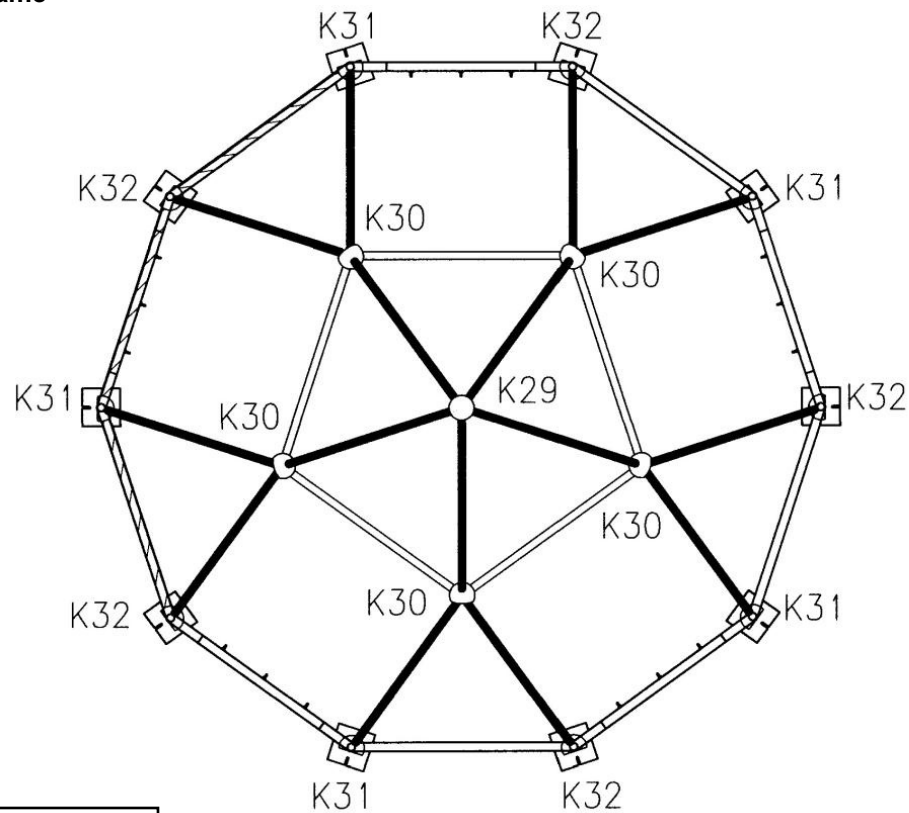
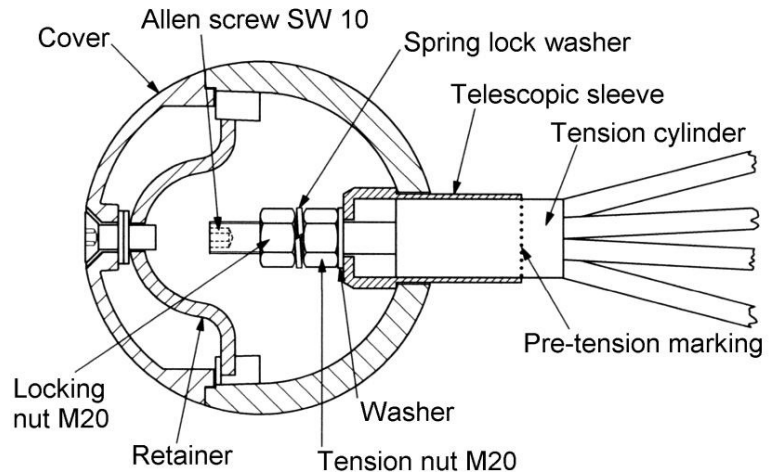
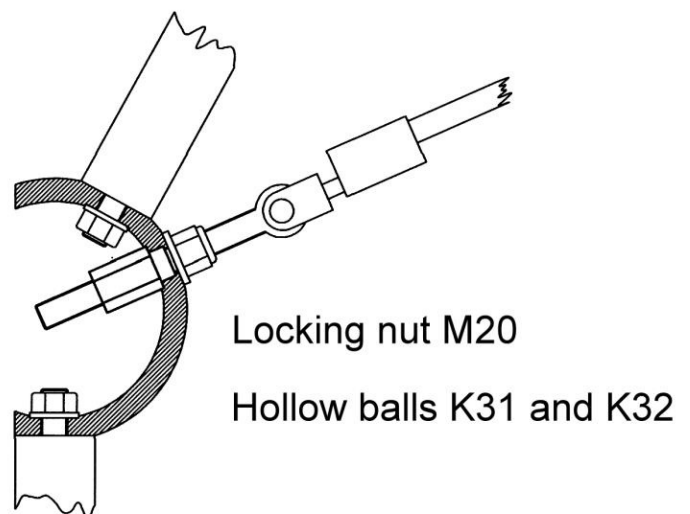

Figure 9
Figure 16
Figure 17
Two double ladders (2.5 m and 4 m long) are required for easy assembly. The structural arrangement of the lattice-work tubes and hollow balls can be seen in **Figures 9 and 10**. The identification number (**K29 to K32**) on the hollow ball must always point to the top of the equipment when being positioned.
Preassembly of the space net begins by screwing the tension systems into the hollow balls of **K30** (Figures 9, 10 and 16). In doing this, the tensioning cylinder is inserted into the telescopic sleeve with the M20 bolt and mounted from the inside with the tension nut M20 (Size 32) with approximately 5 turns of the thread. After this, the tension screws for hollow balls **K31** and **K32** (Figures 9 and 10) are made which also mount the tension rope via the fork screws (Figure 17).
Firstly the aligned connection on the hollow ball **K29** is to be solidly secured. Tensioning of the space net begins on the hollow balls of **K31** and **K32** which are screwed to the locking nut (Figure 17) using the special spanner supplied. After doing this tensioning is made on **K30** hollow balls up to the marking (Figure 16). Finally, the space net must be under a **tension having an even strength throughout**.
After tensioning, the tension nuts are to be locked on all **K30 knot points** using the locked nuts and spring lock washer provided (M20 Size 32). **In order to tighten the locking nut, the Allen key Size 10 must be inserted into the M20 screw and held (Figure 16).** The locking nuts Size 30 (**Figure 17**) are to be inspected once again to ensure that they are solidly secure at the **K31 and K32 knot points**. Finally all knot points from **K29 to K32** are to be closed by screwing the knots with the prepared covers via a clamping screw (**Figure 16**). In doing this please ensure that the cover is positioned evenly so that our company logo is readable. Thank you.
The first re-tensioning must be carried out after one to two weeks. Re-tensioning is made via the tension nuts (M 20) in the hollow balls. Firstly the **balls K31 and K32** are re-tensioned. After removing the cover using an Allen key Size 10 and loosening the locking nut M20 Size 30 (Figure 17) on the outside of the ball, the inside tension nut Size 30 is re-tensioned with the box spanner. It is imperative that the **locking nuts** be solidly tightened **after re-tensioning**. After this, further retensioning is made at the **K30 knots** and should be carried out evenly. In doing this the inside locking nut M20 Size 32 is loosened after removing the cover and re-tensioned at the tension nut M20 Size 32 **beyond the pre-tension marking** using the special box spanner supplied. After re-tensioning, the tension nuts on the K30 knots must be **locked again** with the locking nuts. **Please note to the spring lock washer between the nuts. In order to loosen and secure the tension nut and locking nut M20 Size 32, the bolt M20 can be held with an Allan key Size 10 (Figure 16).** Finally the open hollow ball is once again closed with the cover. Please ensure that the cover is placed evenly so that our company logo is readable. Thank you.
- Check the locking nuts (**Figure 17**) to ensure solid seating at the **K31 and K32** hollow balls.